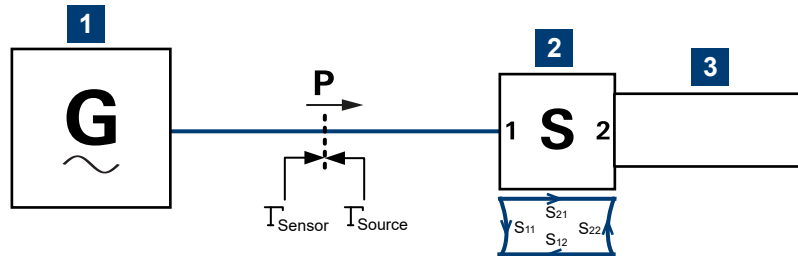

Figure 8-7: Correction of interactions between signal source, S-parameter device and sensor
The interaction between the complex reflection coefficient Γ_{sensor} of the sensor and the reflection of port 2 is expressed by s_{22} , see Figure 8-7. If the S-parameter correction is enabled, this interaction is always considered, regardless whether gamma correction is performed or not.
- S-parameter device if the S-parameter correction is enabled, S11 in Figure 8-7.